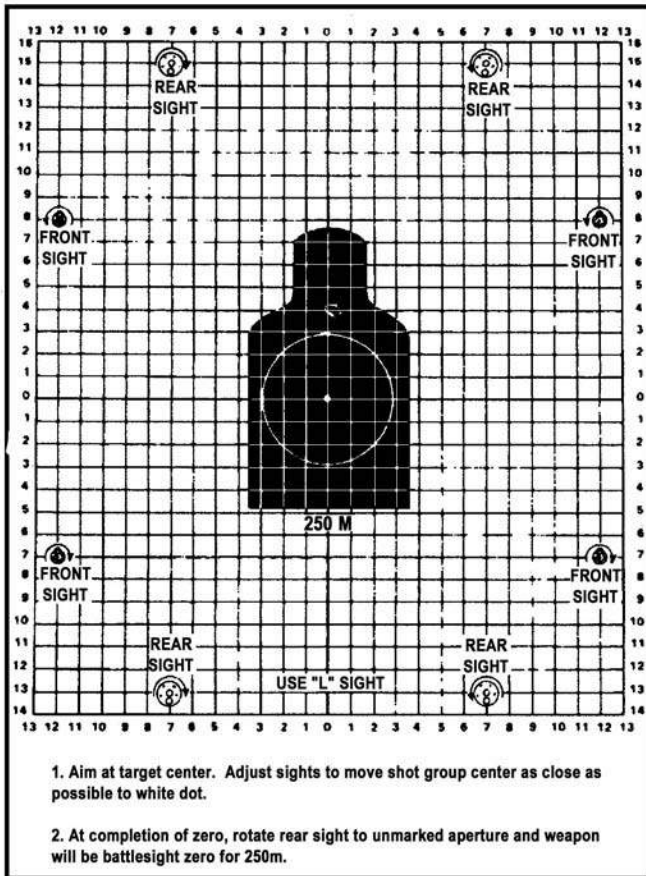

Figure 071-311-2004-4. Standard zero target
- b. Align the aiming point (figure 071-311-2004-4).